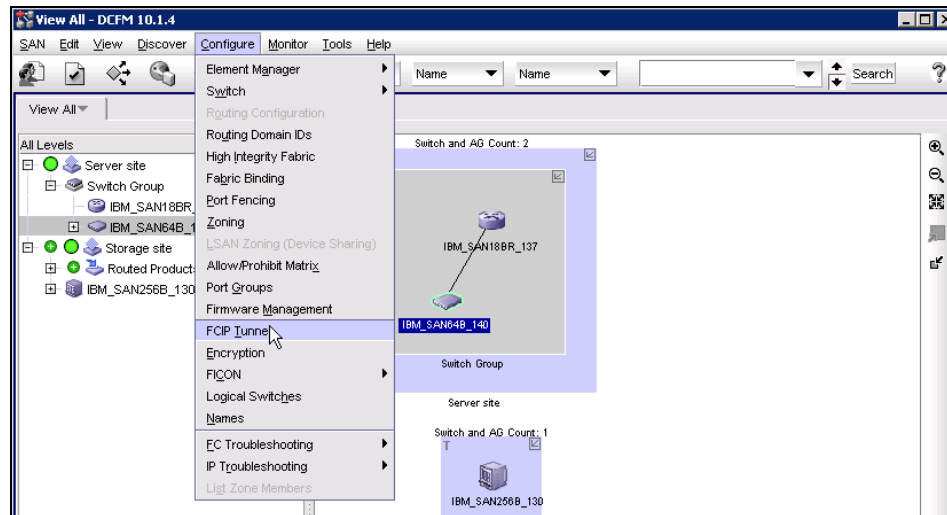

Figure 10-21 FCIP tunnel create option
1. From the Configure menu (Figure 10-21), select **FCIP tunnel**.